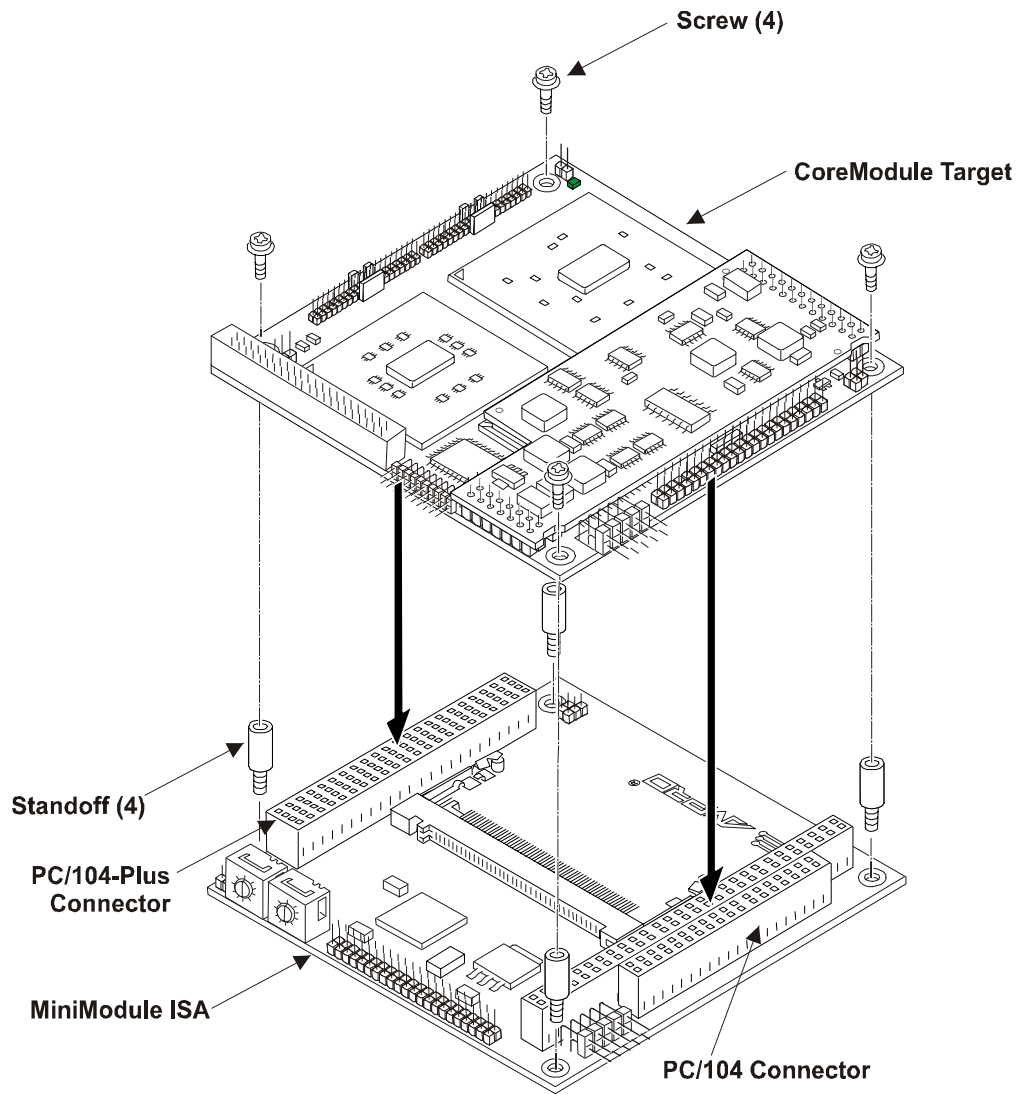

Figure 2-4. Installing a CoreModule Target on a MiniModule ISA
10. Install the spacers on the target board.	Install the threaded standoffs onto the target board at the four corners of the MiniModule board. See Figures 2-4 and 2-5.
13. Position the MiniModule ISA onto the target system.	The MiniModule ISA must be positioned over (or under) the PCI-104 connector on the target system. See Figures 2-4 to 2-5. Typically the MiniModule ISA board is installed on the top side of the target system, but in some cases, it may be installed underneath or below the target system.